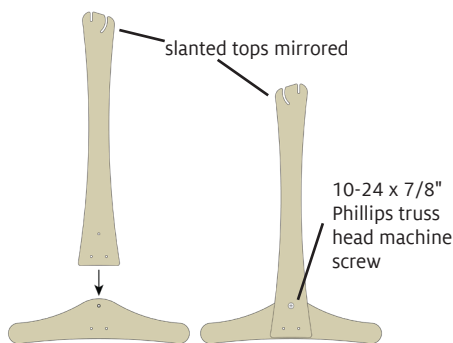

FIGURE 4: ATTACH LEG TO BASE
2. Orient legs and bases: Place each base on a work surface with the propeller nuts facing downward (Figure 4). Orient the legs with their slanted tops mirroring each other. Set each leg on top of a base with the three holes aligned.
3. Attach legs to bases: Insert a 10-24 x 7/8" Phillips truss head machine screw into the uppermost hole of a leg. Attach the screw into the propeller nut of the base (Figure 4). Repeat for the remaining leg and base.